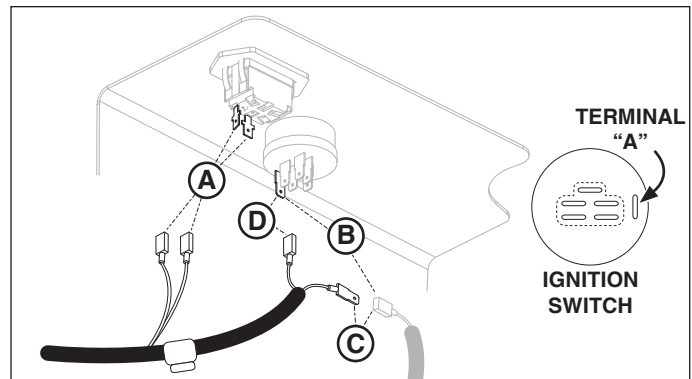

Figure 4. Connecting the Wire Harness
6. Make the connection between the two female leads on the headlight wire harness and the headlight switch (**A**, **Figure 4**).